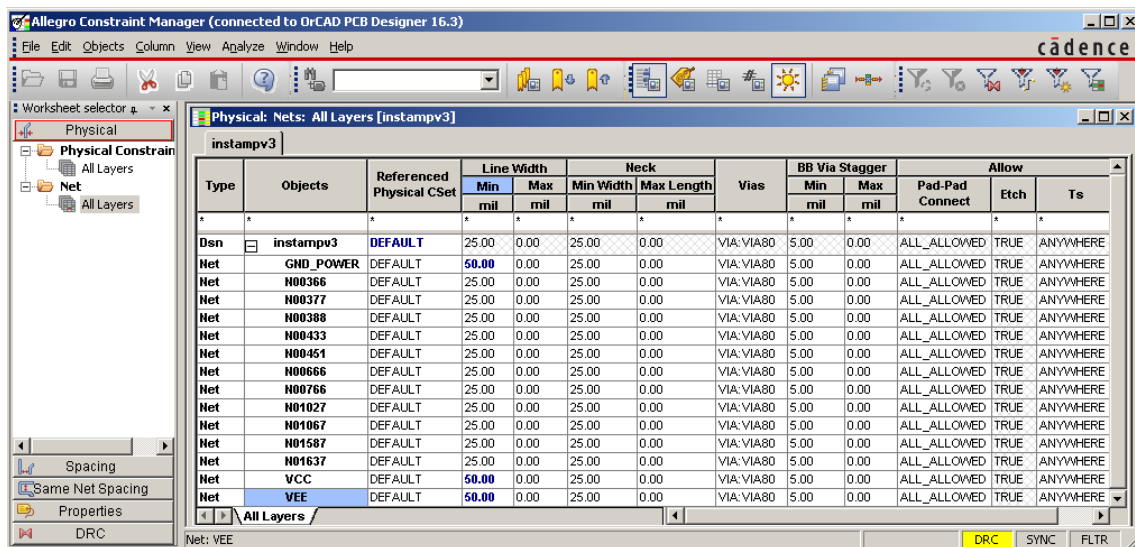

Figure 15. Constraint manager after changing the widths of the three power nets but before correcting the vias.
2. The left-hand part of the window shows the various properties that can be edited. Click on All Layers under Net. See figure 15 on the previous page for guidance.
Fixup. Choose Setup > Constraints > Physical... from the menu bar. Select Physical Constraint Set > All Layers to bring up the spreadsheet shown in figure 15 on page 30. The column headed Vias for the DEFAULT row probably has VIA:GU-VIA80. Highlight this cell and choose Edit > Change... Remove VIA from the Via list on the right and click OK. The cell now contains only GU-VIA80, which is what we want. Close the Constraint Manager and return to PCB Editor. 🐛